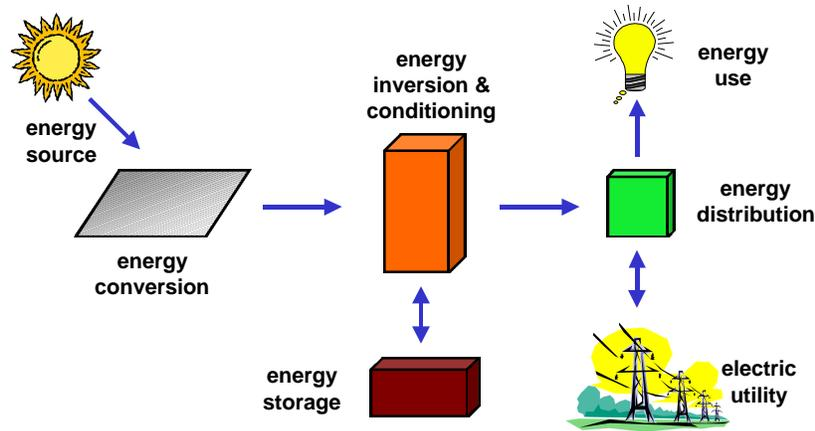

Figure 3. Photovoltaic system components.
| FIGURE 3. PHOTOVOLTAIC SYSTEM COMPONENTS | 6 |
A. In addition to an array of photovoltaic modules, a number of other components are required in any PV system to conduct, control, convert, distribute, and store the energy produced by the array. The specific components required depends on the functional and operational requirements for the system, and may include major components such as a *DC-AC power inverter*, *battery bank*, system and battery *controller*, auxiliary energy sources and sometimes the specified *electrical load* (appliances). In addition, an assortment of *balance of system (BOS)* hardware, including wiring, terminations, overcurrent, surge protection and disconnect devices, and other power processing equipment. Figure 3 show a basic diagram of a photovoltaic system and the relationship of individual components.